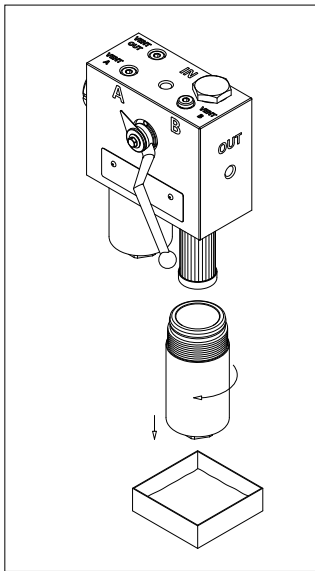

fig. 9
- (Fig. 9) Unscrew the filter bowl while keeping the collection vessel